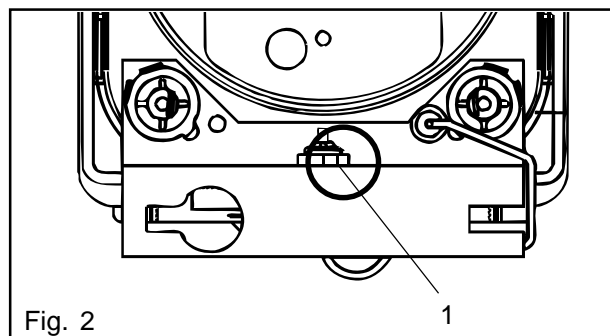

Fig. 2
- If necessary press the reset button (1). (Fig. 2) The dry running protection is defective if it is difficult to actuate the reset button or when it jumps back out.